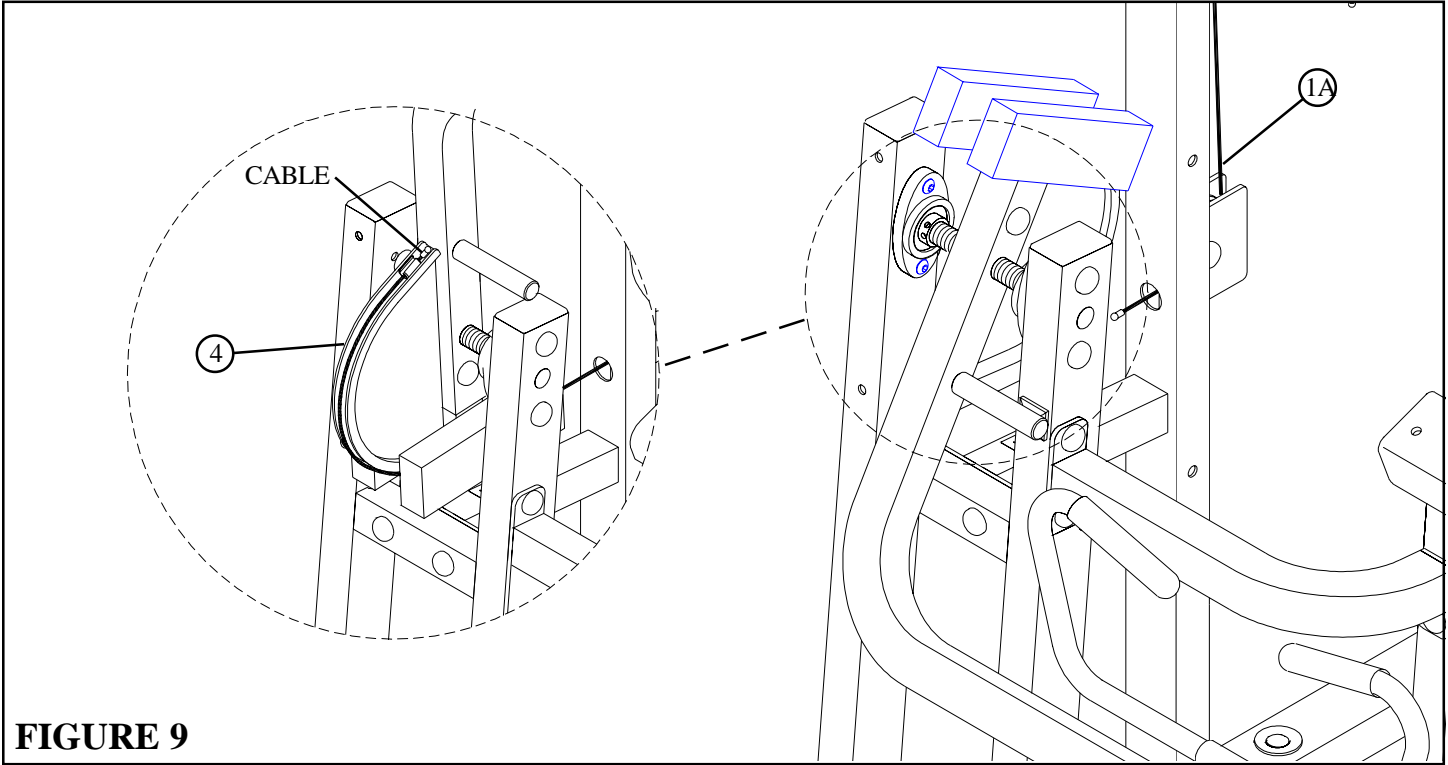

FIGURE 9
- Slide the end of the CABLE into the bushing on the PIVOT ARM (4) as shown in FIGURE 9.